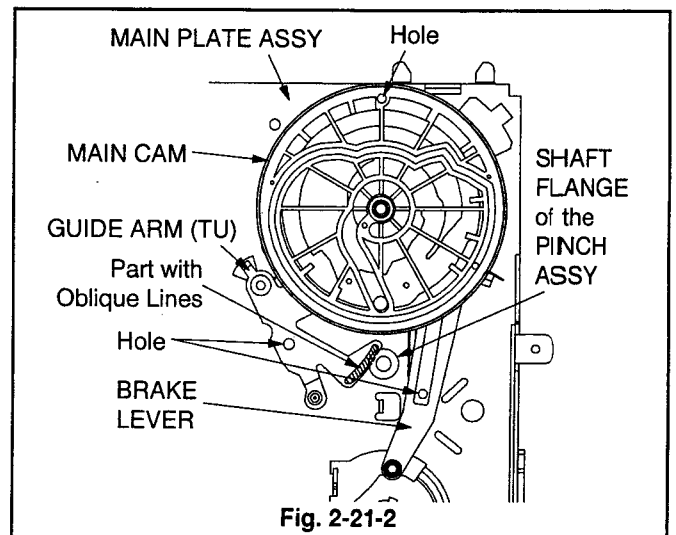

Fig. 2-21-2
3. Install the GUIDE ARM (TU), matching the Hole in the GUIDE ARM (TU) shown in the Fig. 2-21-2 with the Hole in the MAIN PLATE ASSY.
4. Install the BRAKE LEVER shown in the Fig. 2-21-2 so that the Hole in the BRAKE LEVER overlaps the Hole in the MAIN PLATE ASSY.
6. Install the MAIN CAM so that the Hole in the MAIN CAM shown in the Fig. 2-21-2 overlaps with the Hole in the MAIN PLATE ASSY.